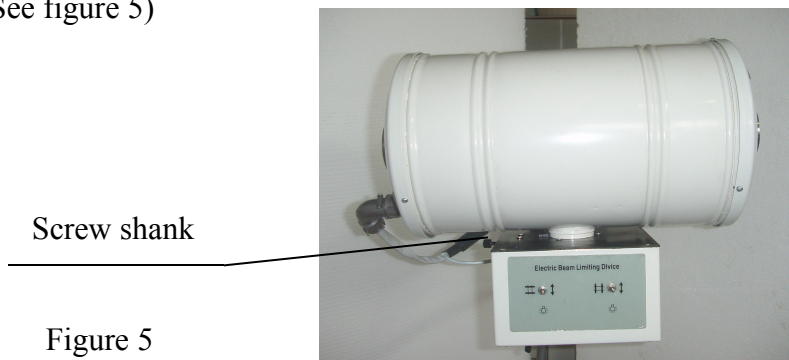

Figure 5
5) Loosen the locking screw shank of the dynamoelectric cluster limiter, Make the fixed screw bolt screwed in the X-ray tube head window of the x ray machine, and tighten the screw. (See figure 5)